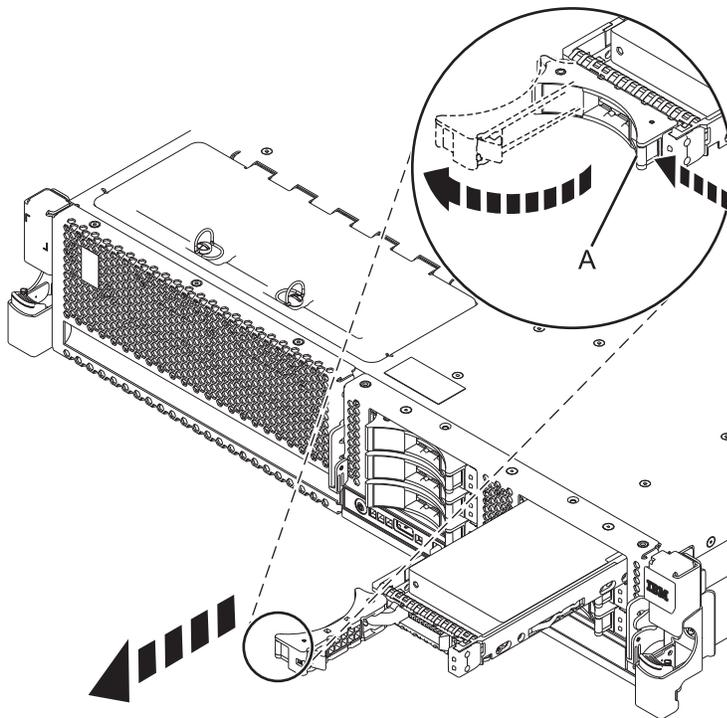

Figure 24. Removing a disk drive from the 8231-E2B, 8231-E1C, or 8231-E2C
1. Unlock the disk drive handle by squeezing it and pulling it out toward you, as shown in Figure 24.